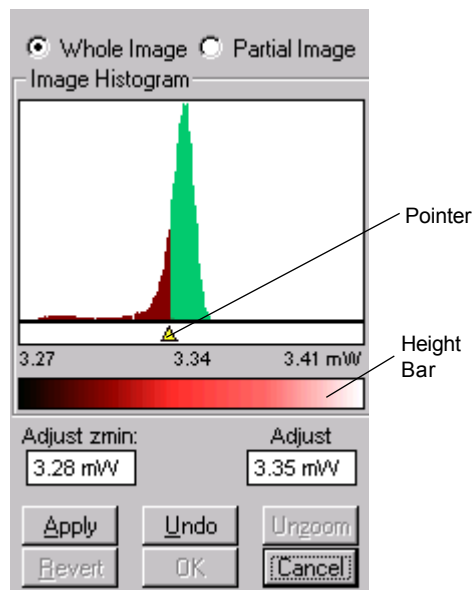
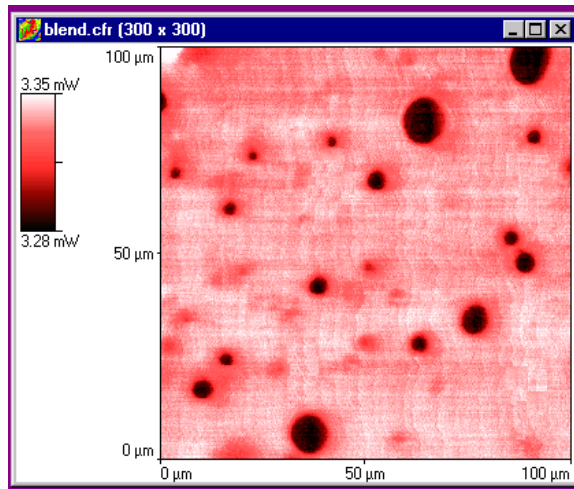

Figure 6.14
Figure 6.15 Color Palette
2. Click and hold the cursor in the **Pointer** area below the histogram, at the left edge of the data you want to highlight. A pointer appears under the histogram (see Figure 6.14).
3. Drag the pointer to the right until you have highlighted the appropriate data range (as shown in Figure 6.14), and release the cursor. The values in the Adjust zmin (Z minimum) and Adjust (Z maximum) fields change to match the new limits you have chosen.
Figure 6.15 shows the thermal conductivity image from Figure 6.14 with the color redistributed over the entire image.
4. Click and hold the cursor in the Height bar on the **Histogram** window, to the left edge of the data you want to highlight. A point appears below the histogram (see Figure 6.14).
5. Drag to the right until you have highlighted the appropriate data range, and release mouse (see Figure 6.14).